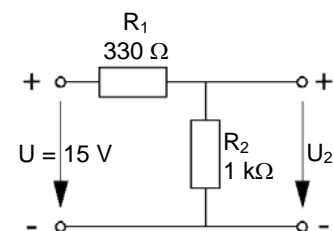

Fig. 3.10.2.1: Voltage divider
- For the circuit in Fig. 3.10.2.1, calculate the output voltage  $U_2$  and the voltage  $U_1$ .
Assemble the circuit in Fig. 3.10.2.1 on the Electronic Circuits Board. Apply a voltage of  $U = 15\text{ V}$  to the input of the voltage divider (check the input voltage on a multimeter).